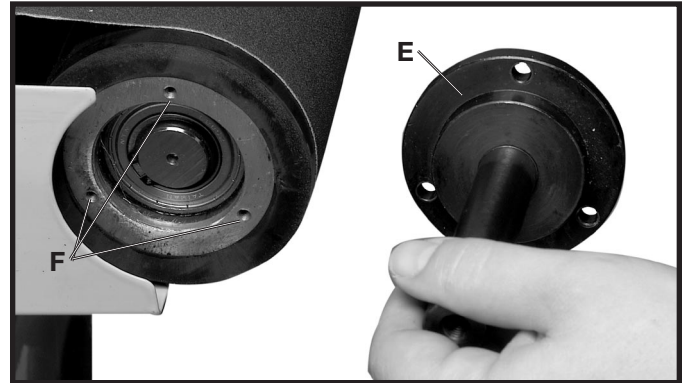

Fig. 21
4. Align the three holes in spindle (E) Fig. 21, with the three tapped holes (F) in the drum.